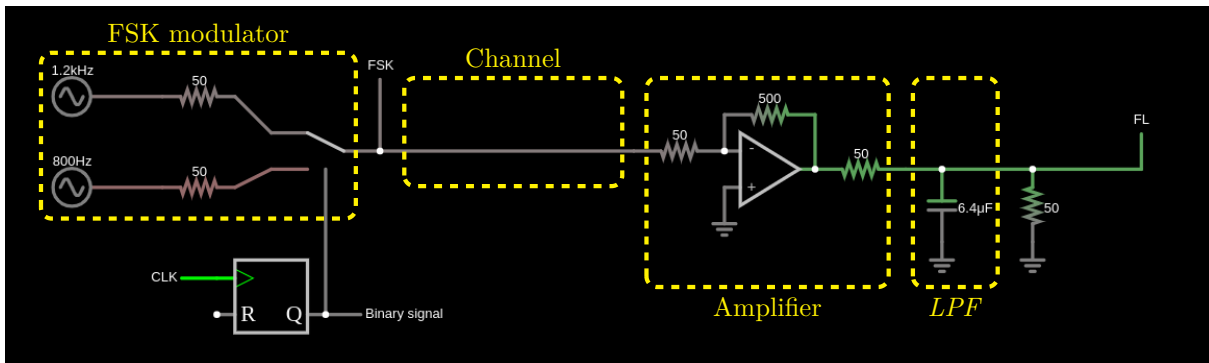

Figure 1: FSK with a low pass filter to discriminate frequencies.
2. Obtain, by means of circuit analysis, the following properties of the low pass filter used in the circuit shown in the Figure 1: